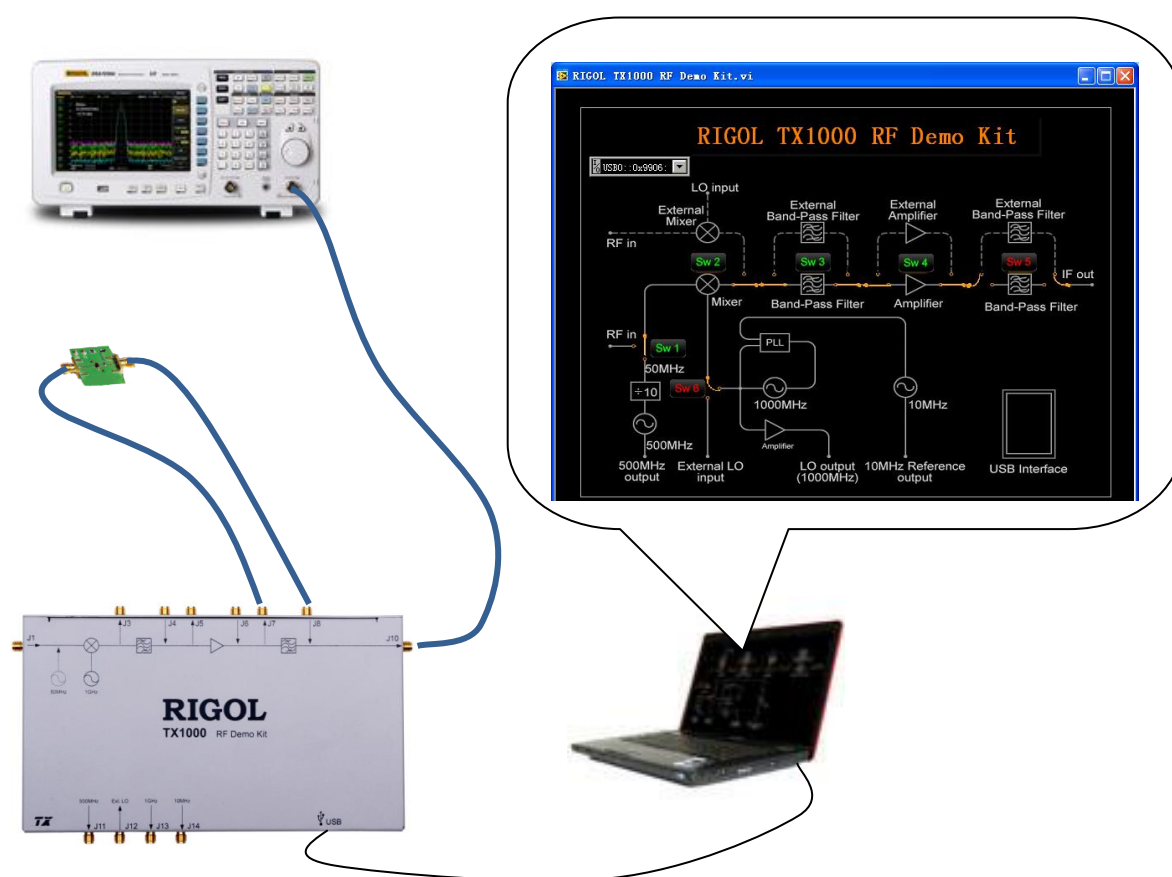

Figure 15 The Influence of the Performance of the Filter on the System
- Connect the spectrum analyzer, RFDK-TX and PC as shown in figure 15 and replace the filter of the RFDK-TX;